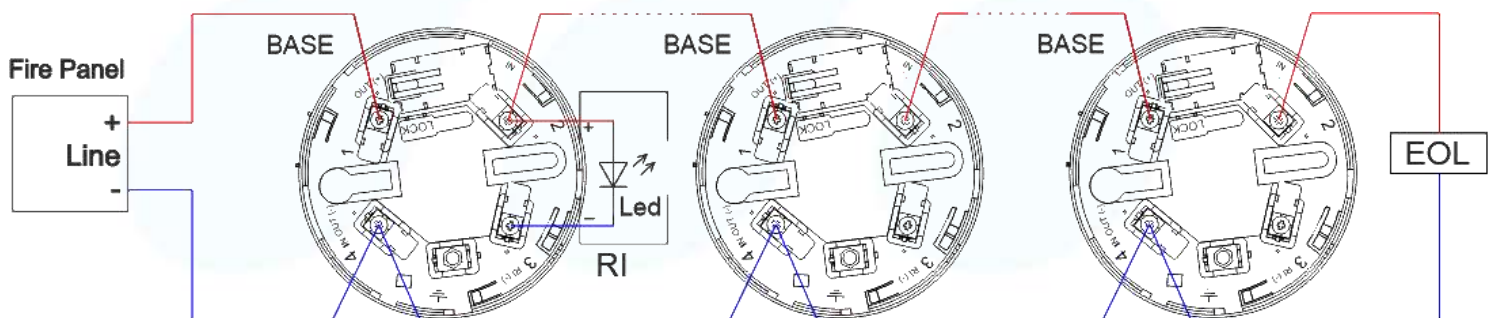

Fig. 1
- Connect the electrical cables according to the attached diagram (Figure 1);